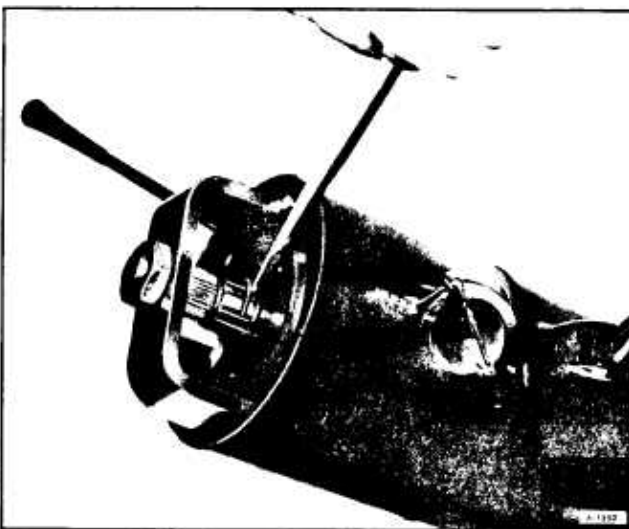
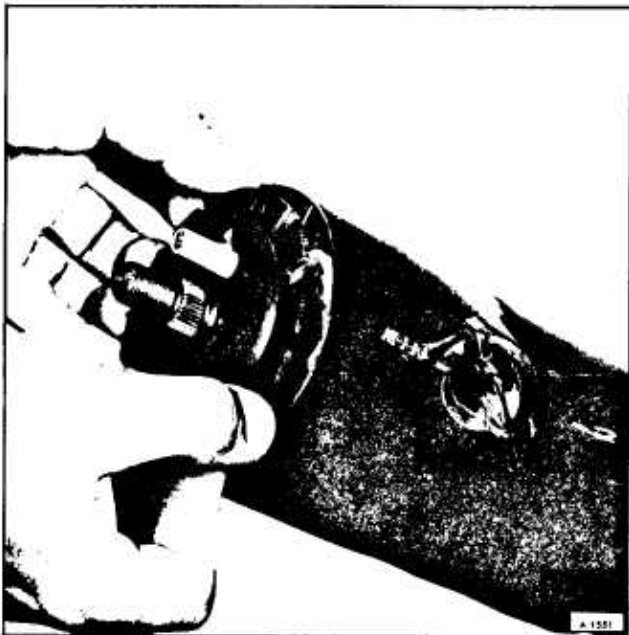

Figure 68—Removing Retaining Ring
Figure 69—Removing Lock Plate
3. Depress lock plate downward as far as possible using special tool J-23131 or J-23653 and the hand wheel nut. Pry the retaining ring out of the shaft groove. (figure 68). Remove the retaining ring and lock plate. (figure 69).